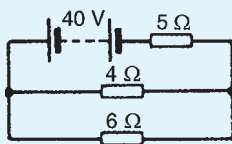

Figure 13.50
2. Use Thévenin's theorem to find the current flowing in the  $6\ \Omega$  resistor shown in Fig. 13.50 and the power dissipated in the  $4\ \Omega$  resistor. [2.162 A, 42.07 W]